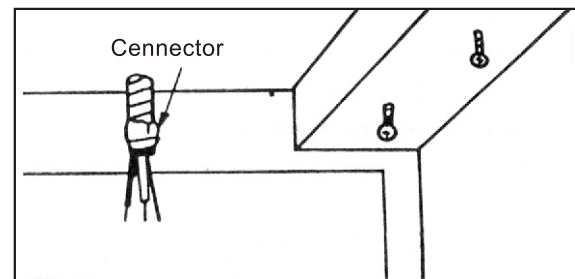

Fig .10 Take the power supply cord through the access hole.
6. Take the power supply cord through the access hole drilled on the cabinet. (Fig.10 )